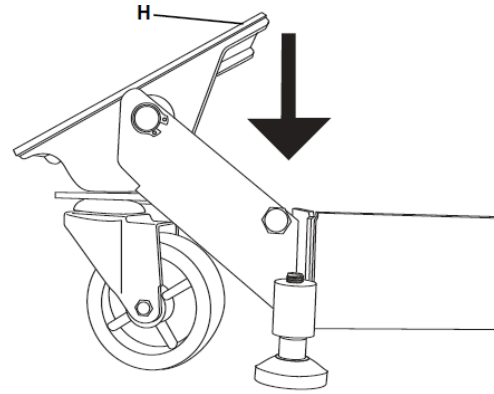

Fig. 3
2. To lower the mobile base from the raised, mobile position, push down on the back (H) of each foot pedal. In the raised position the swivel casters are in contact with the floor. See figure 3.